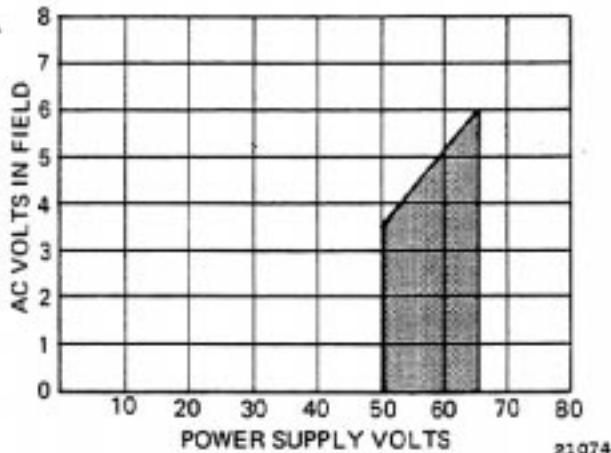

Fig. 9 - Approximate AC Voltage In Field With Respect To Test Power Supply Voltage
14. Turn power supply on. Slowly increase supply voltage to regulator. Observe both power supply voltmeter and the VOM. AC voltages indicated by VOM should correspond with DC voltages indicated by power supply voltmeter as shown in Fig. 9.